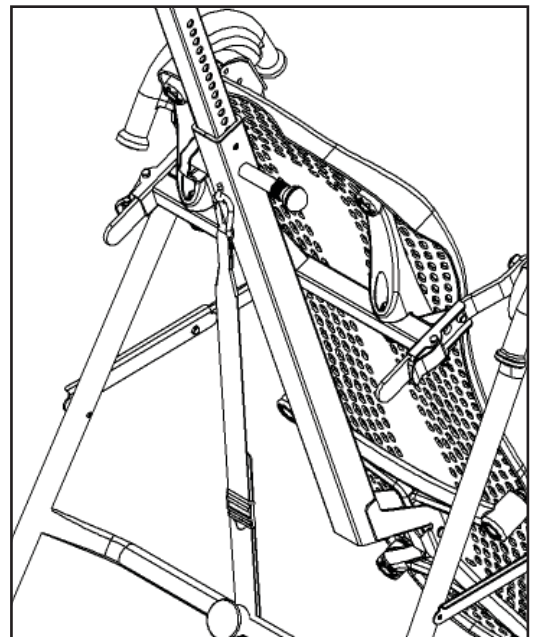

Figure 13
- Hook the clip at the end of the tether strap to the loop at the base of the table bed (Figure 13) to limit your degree of rotation.